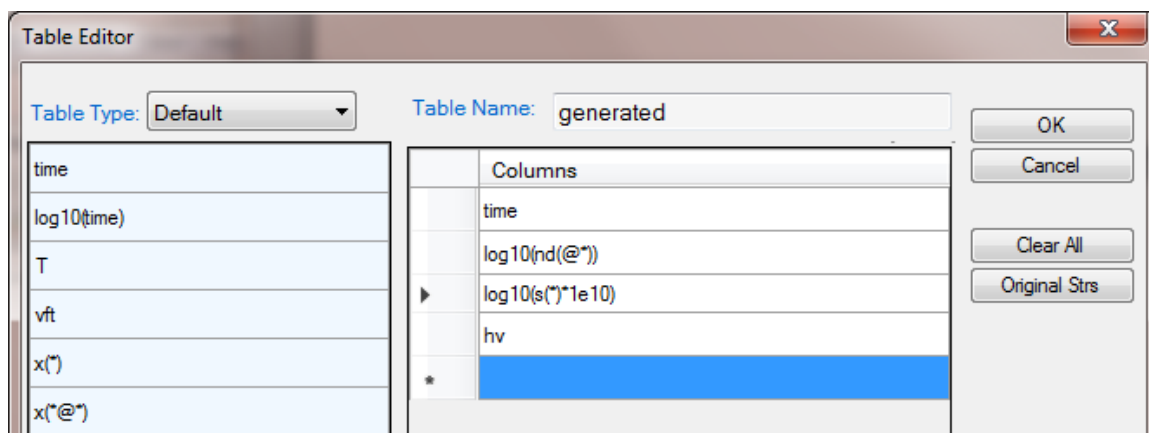

Figure 3.5.2: Create a new table
- Create a new table as shown in Figure 3.5.2, and plot the t vs. $\log(nd)$, t vs. $\log(\text{size})$, and t vs. hv;